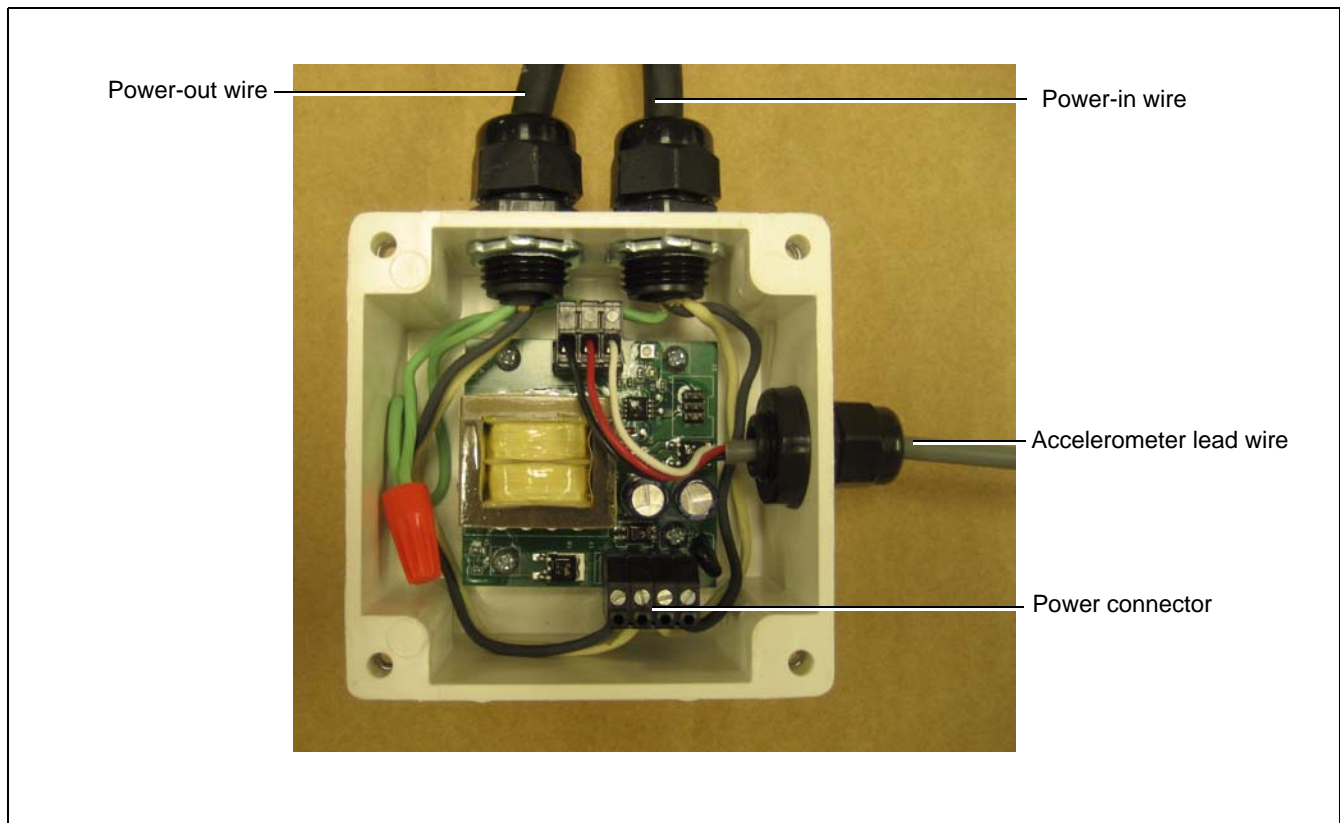

Figure 4 Accelerometer Installation
4. Install the electronic controller enclosure assembly onto the left hand junction box mounting bracket using three (3) 1/4"-20 UNC x 5/8" flange bolts and three (3) 1/4"-20 UNC flange nuts. Remove the mercury tilt switch; route the accelerometer assembly electrical cord underneath the junction box and install the tilt switch accelerometer assembly into the tilt switch mounting bracket in place of the mercury tilt switch. Install the accelerometer assembly with the arrow on the side of the accelerometer aligned with their respective directions **SWEEP** (meaning direction of travel) and **EARTH**. (See Figure 4 on Page 3.) **NOTE:** On Canadian CSA certified units, the tilt switch bracket may be relocated to the outside of the plastic junction box using the same mounting holes since mercury is no longer used. If it is desired to leave the tilt switch bracket inside the junction box, a 0.875" diameter hole must be drilled in an appropriate location in the side or bottom of the junction box for a 1EL0425 cable connector for routing of the accelerometer assembly electric cord into the junction box.
c. Remove the rubber grommet from the upper knockout hole on the right hand side of the junction box (where the mercury tilt switch lead wires previously entered the box) and install a cable connector, part #1EL0425. **NOTE:** *On Canadian CSA certified units, it will be necessary to drill an additional 7/8" diameter hole in the bottom of the plastic junction box to install the 1EL0425 cable connector.* Route a wire part #106E101 (18/3) through this connector into the junction box and connect the black and white wires with the black and white wires from the track drive motor power cord (black to black and white to white) using wire nuts. (**NOTE:** *The green wire in this 18/3 wire will not be used.*) The green wire of the track drive motor power cord should be connected to the terminal block with the green wire from the main power cord. Route the other end of this 18/3 wire (power-out) through the top, inner (left hand) cable connector on the electronic controller enclosure assembly and connect the black and white wires to the power connector at the bottom of the printed circuit board. Connect the black wire to the terminal farthest to the left and connect the white wire to the inside terminal next to the black wire. (See Figure 4 on Page 3.) **NOTE:** *Both white wires of the power-in and power-out 18/3 wires should be side by side.*